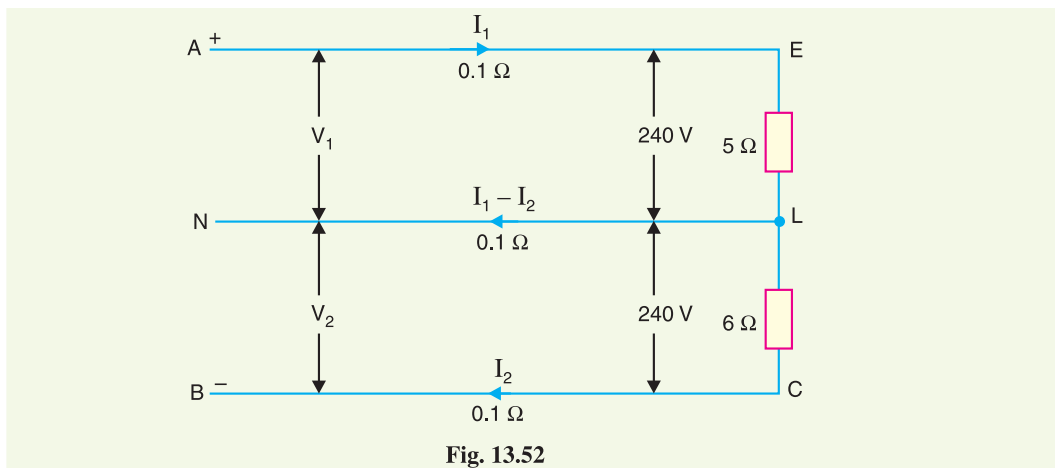

Fig. 13.52
**Solution.** Fig. 13.52 shows the 3-wire distribution system.